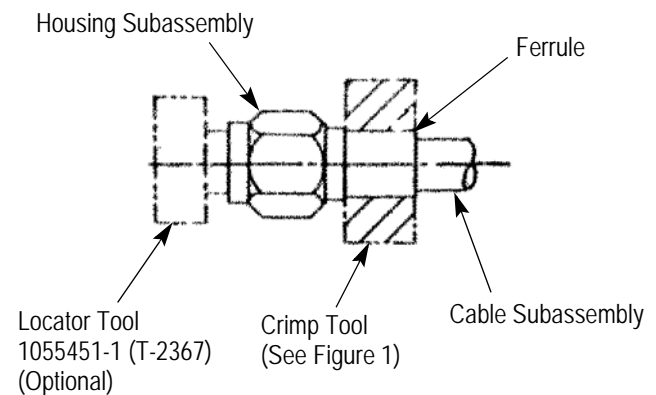

Figure 4
2.3. Crimping the Connector to Cable (Figure 4)